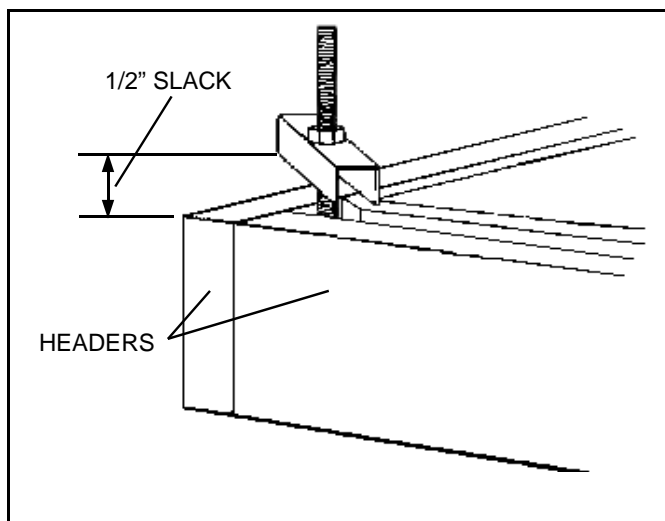

Figure 5
- Starting at one end, slide a joist hanger at a 45 degree angle onto threaded rods and thread nut down until there is only about 1/2" slack. **Do not tighten fully.** Figure 5.